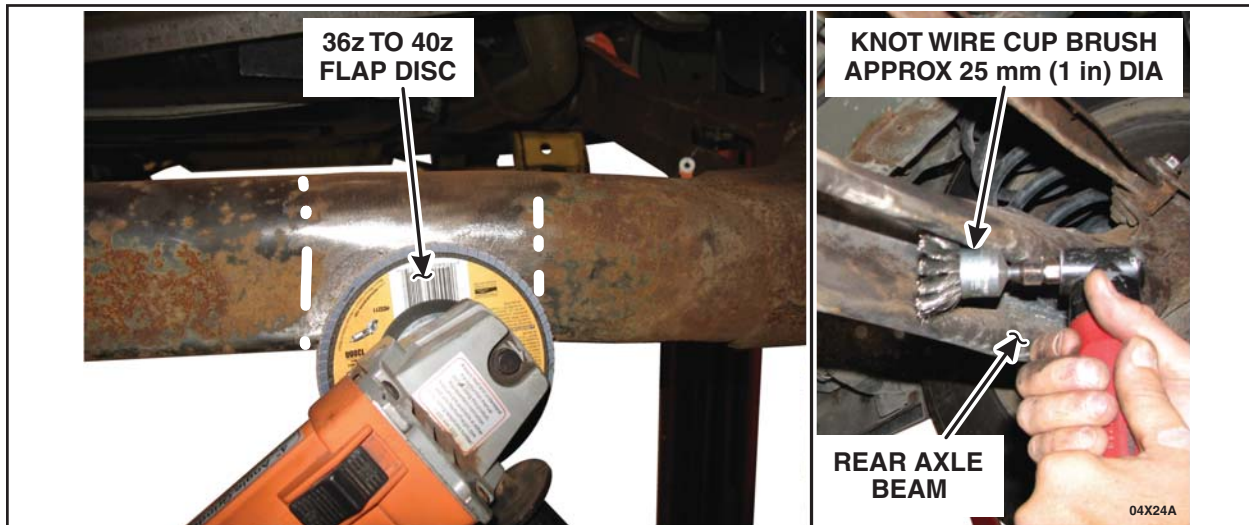

**FIGURE 1**
2. Measure and mark the areas located 127 mm (5 in) to 229 mm (9 in) inboard of the axle welds. See Figure 1.